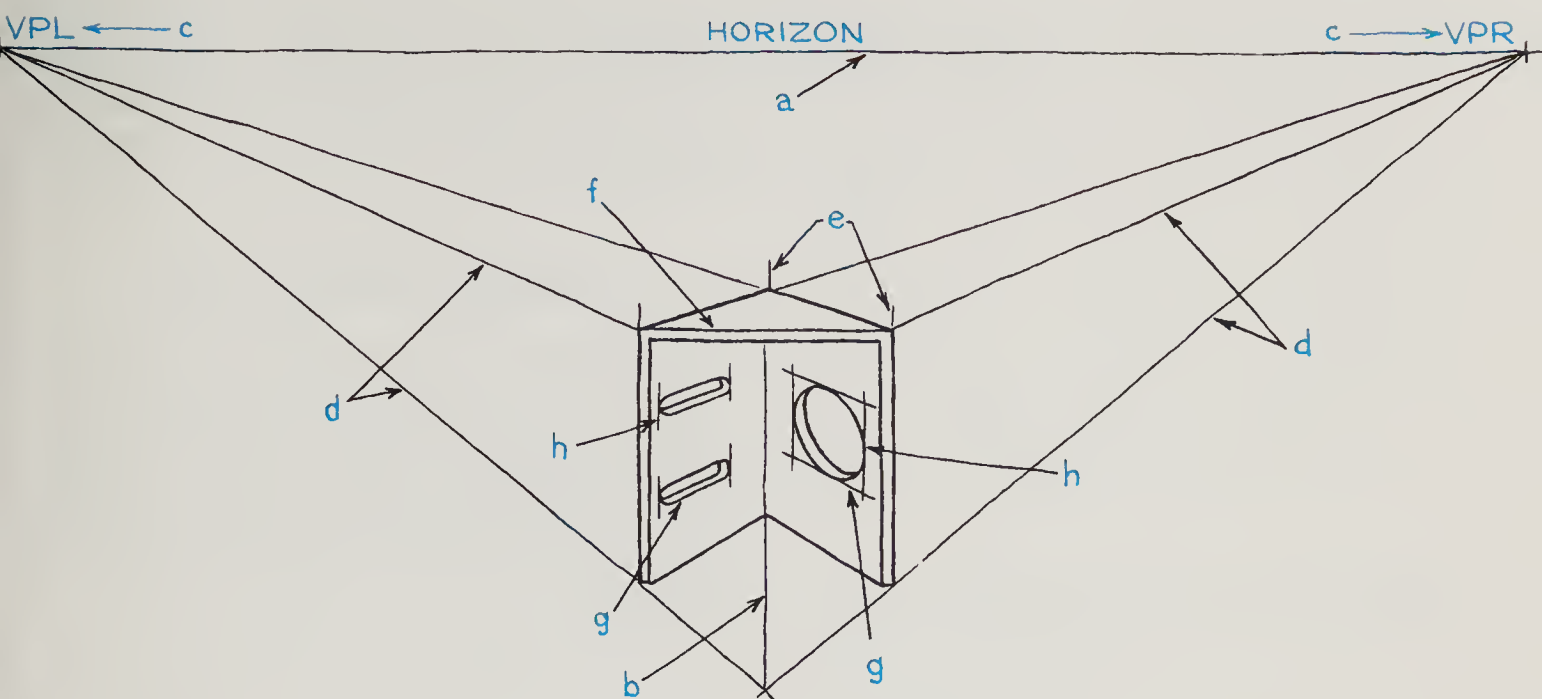
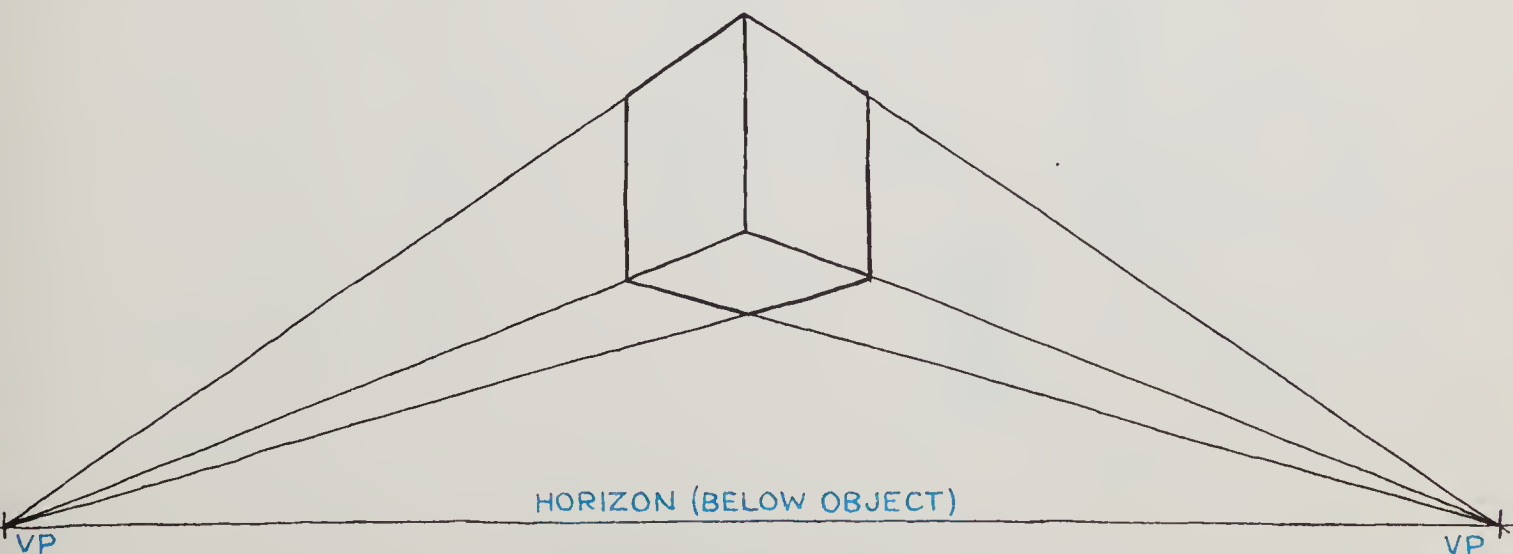

Fig. 13-15. Steps in sketching an angular or two-point perspective.
Fig. 13-16. Perspective view with horizon below object.
The angular or two-point perspective gets its name from the fact that the two side faces of the object meet the front picture plane at an angle and recede toward two vanishing points on the horizon, Fig. 13-15.
- line may be above, behind or below the object, depending on the level from which you want to view the object, Fig. 13-15(a). (See Fig. 13-16 for perspective view with horizon below the object.)
2. Select position in which object is to be viewed and sketch vertical line for front corner of "box" to enclose object, Fig. 13-15(b).
3. Establish right and left vanishing points on horizon, Fig. 13-15(c). If the object is to be positioned so as to view equally the two sides, then the vanishing points will be equidistant on each side of the object. If one side is to be favored, the vanishing point for that side will be extended out and the vanishing point on the other side will be shortened. Both VP's must remain on the line of horizon, however.
cal line to the two vanishing points, Fig. 13-15(d).
5. Enclose object in "box" by sketching rear vertical lines, Fig. 13-15(e). To estimate depth of side and top views, reduce these distances by about one-half and adjust until it pleases the eye.
6. Sketch slant lines by locating two end points on the perspective axes and sketch lines between, Fig. 13-15(f).
holes, Fig. 13-15(g).
8. Sketch circles and arcs, Fig. 13-15(h).